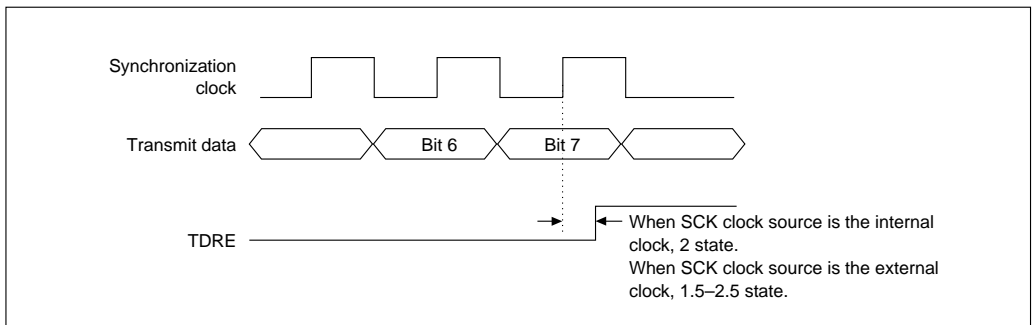

Figure 2.25 Transmit data in TSR (Clock-synchronous mode)
2. Clock-synchronous mode (See figures 2.25 and 2.26.)